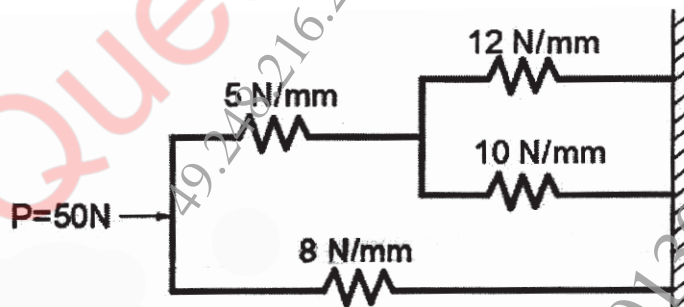

Figure 2: Qu 6(a)
**Q6) a)** For the Axially Loaded Spring System as shown in figure 2, determine [6]